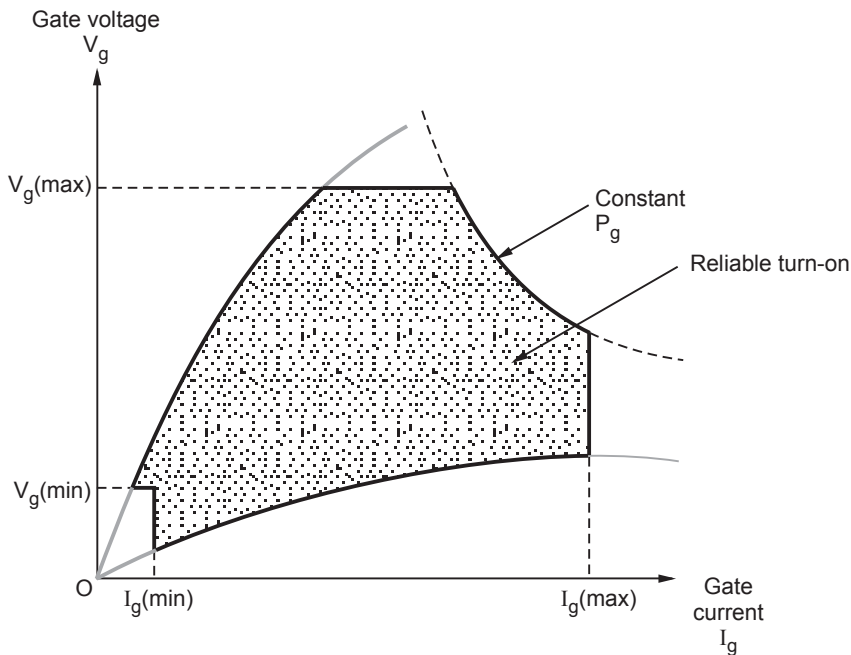

Fig. 1.9.1 Gate trigger characteristics
In the previous section we studied V-I characteristics of SCR. Now we will have a closer look towards gate characteristics of the SCR. Fig. 1.9.1 shows the gate trigger characteristics.
The characteristic of Fig. 1.9.1 also shows the curve for constant gate power (P_g). Thus for reliable turn-on, the (v_g, i_g) point must lie in the shaded area in Fig. 1.9.1. It turns-on SCR successfully. Note that any spurious voltage/current spikes at the gate must be less than $v_{g(\min)}$ and $I_{g(\min)}$ to avoid false triggering of the SCR. The gate characteristics shown in Fig. 1.9.1 are for DC values of gate voltage and current.
- (ii) The gate voltage and current should be within the limits specified by gate characteristics (Fig. 1.9.1) for successful turn-on.